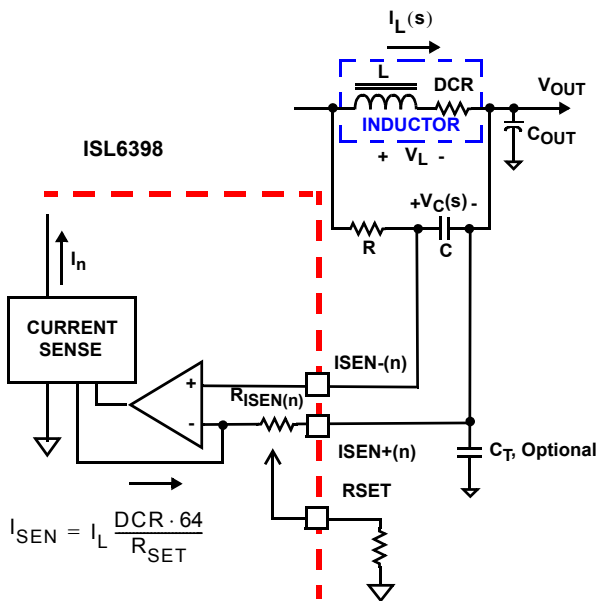

FIGURE 4. DCR SENSING CONFIGURATION
The internal circuitry, shown in Figures 4 and 5, represents one channel of the VR output, respectively. The ISEN± circuitry is repeated for each channel, but may not be active depending on the status of the PWM[6:2] pins, as described in “PWM Operation” on page 17. The input bias current of the current sensing amplifier is typically 25nA; less than 8kΩ input impedance is preferred to minimized the offset error, i.e., a larger C value as needed.
An inductor’s winding is characteristic of a distributed resistance, as measured by the Direct Current Resistance (DCR) parameter. Consider the inductor DCR as a separate lumped quantity, as shown in Figure 4. The channel current I_L , flowing through the inductor, will also pass through the DCR. Equation 4 shows the S-domain equivalent voltage across the inductor V_L .
A simple R-C network across the inductor extracts the DCR voltage, as shown in Figure 4.
The current sense circuitry operates in a very similar manner for negative current feedback, where inductor current is flowing from the output of the regulator to the PHASE node, opposite of flow pictured in Figures 4 and 5. However, the range of proper operation with negative current sensing has a limitation. The worst-case peak-to-peak inductor ripple current should be kept less than 80% of the OCP trip point (~80μA). Care should be taken to avoid operation with negative current feedback exceeding this threshold, as this may lead to momentary loss of current balance between phases and disruption of normal circuit operation. Note that the negative current can especially affect coupled inductor designs, where the effective inductance is the leakage between the two channels, much lower than the specified mutual inductance (LM) and self inductance (L). To limit the impact, a higher R_{SET} value (1.5x to 2x) is often used to reduce the effective negative current seen by the controller in coupled inductor designs.